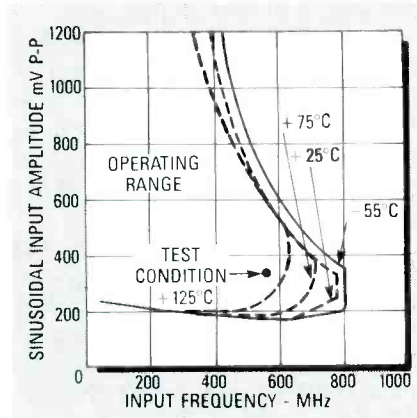

FIG. 3—SENSITIVITY OF IC1 AS A FUNCTION of sinusoidal input amplitude in mV p-p vs. frequency, for -55°C , 25°C , 75°C , and 125°C .
shown in Fig. 2. S1 either DC-couples the input through R1, or AC-couples it through C1. The center pole of S1 goes to the clock-pulse input (CP) of IC1, a National Semiconductor 11C90 prescaler. The 11C90 is an ECL divide-by-10 prescaler, uses +5 volts, has TTL-output, and operates over a DC–650 MHz bandwidth with only an RF-bypass capacitor on V_{CC}. Input sensitivity for AC-coupling is 350 mV p-p from DC–100 MHz, and 250 mV p-p above 100 MHz. The frequency response of the 11C90 is shown in Fig. 3, but that's the guaranteed minimum, and actual performance can exceed it substantially. S2 is located between the frequency counter and the LED display, and selects between the frequency- and period-measurement modes.